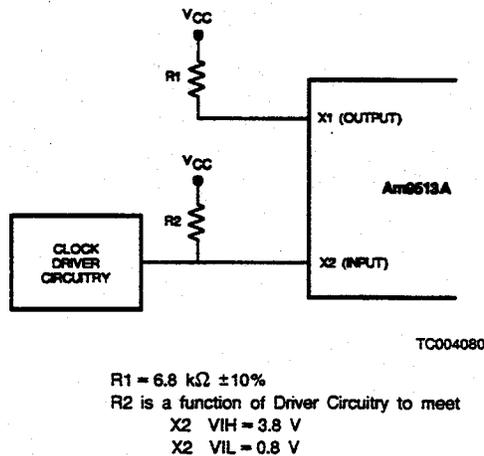

Figure A1. Crystal Input Configuration
- 1) When a crystal is not being used, X1 and X2 should be connected as shown for TTL input (Figure A1) and no input (Figure A2).